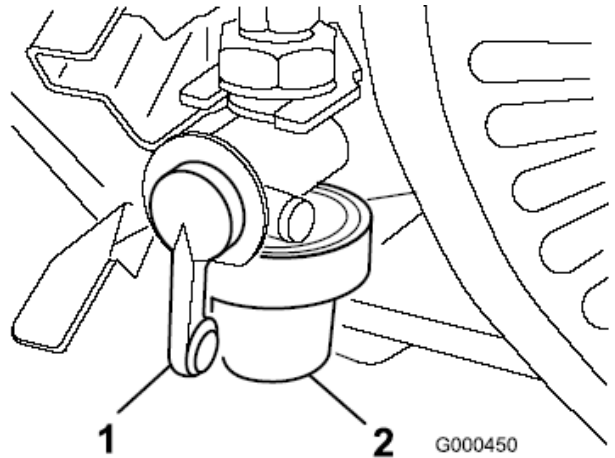

Figure 19
1. Close the fuel shut off valve and unscrew the bowl from the filter body (Figure 19).